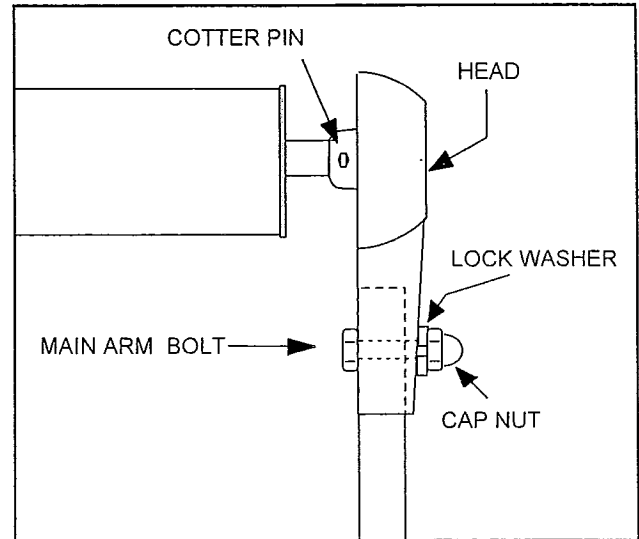

Figure 5
3. Connect the head castings to the roller shafts with 1/8" cotter pins. Bend the split ends of the pins with pliers to hold in place (see Fig.5).